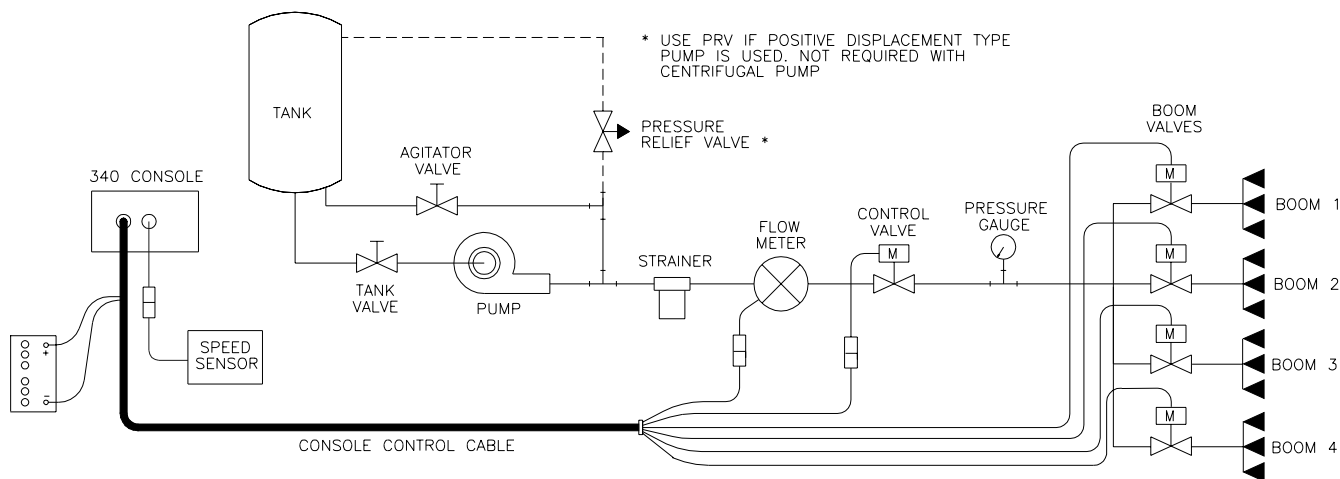

FIGURE 4
- 1) Mount the Flow Meter in the area of the boom valves per Figure 4. All flow through the Flow Meter must go to booms only, i.e. no return line to tank or pump after Flow Meter.